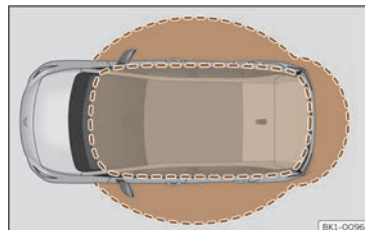

Fig. 72 Keyless Access: proximity zones.
- The vehicle unlocks when the vehicle key is detected in the vicinity >>> **Fig. 72**. All turn signals flash twice.